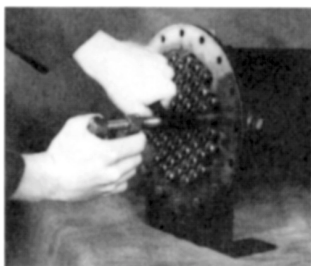

Figure 6: Short End
11. Insert the installation and removal tool through the seal retaining tool, p/n 248623. With a slight twisting motion, push the tube tool through a short end seal until the tool's shoulder contacts the tube. Holding the seal retaining tool firmly against the top of the seal, grip the tube with the tool and with a slight twisting motion, pull the tube through the short end seal until about 1/4" of the tube end sticks outside of the seal. Repeat for each tube (see Fig. 6).